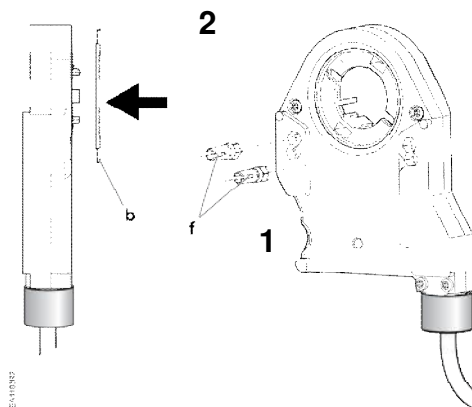
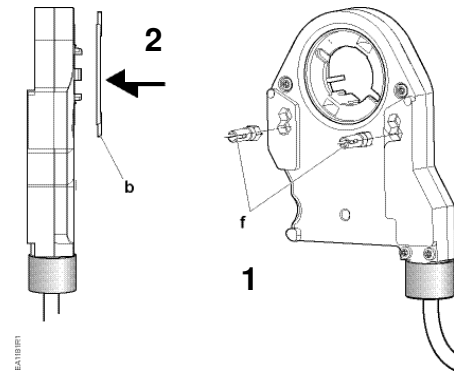

Figure 8. For GMA/GEB Actuators, Use Top Screw Holes.
Figure 9. For GCA, GBB, GIB Actuators, Use the Bottom Screw Holes.
**NOTE:** The EAS label may cover the mounting holes. See Figure 8 and Figure 9 for the mounting hole locations.
1. On the back of the EAS, push the plastic inserts into the mounting holes. (See Figure 8 and Figure 9).
2. Mount the position indicator on the face of the EAS (See Figure 8 step 2 and Figure 9, step 2).